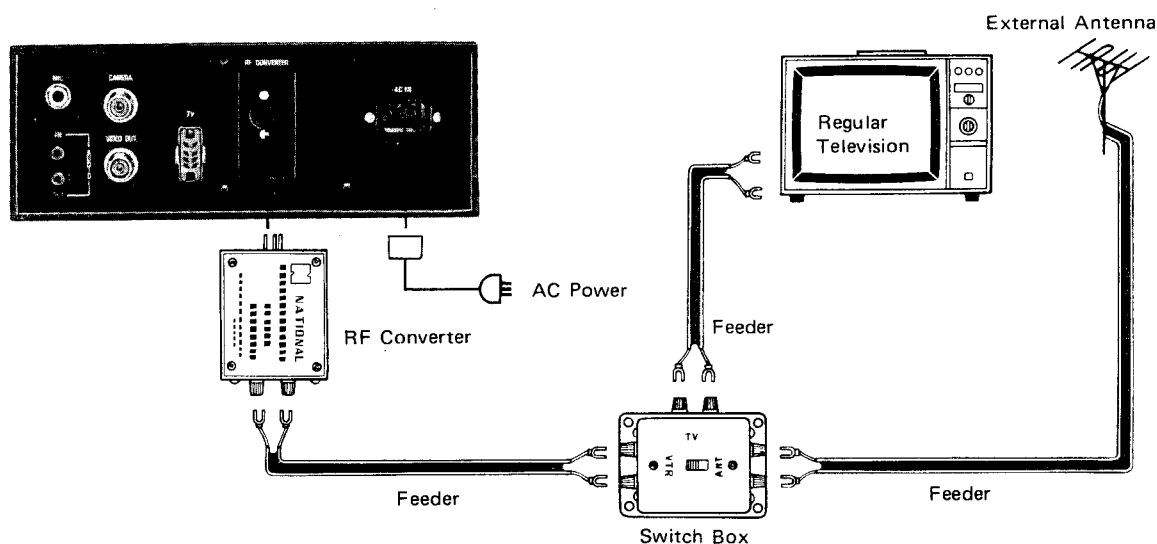

Fig. 18
1. Plug the converter into the RF Converter Receptacle ⑱ on the recorder.
2. Connect the switch box with the RF converter, the regular television and the external antenna as shown in Fig. 18.